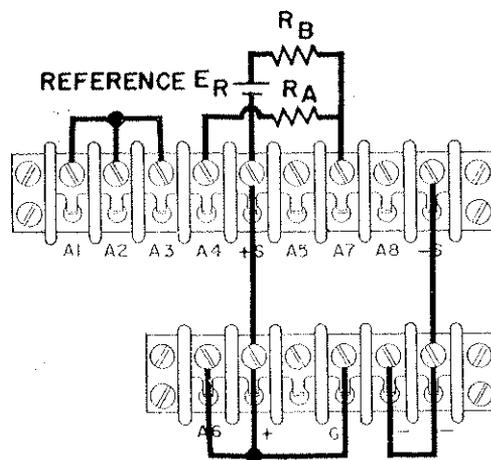

FIG. 3-6C (VOLTAGE & RESISTANCE PROGRAMMING) REMOTE PROGRAMMING CONSTANT CURRENT
- (2) The maximum load on the reference voltage is approximately 10 microamperes.
- (3) The impedance looking into the external programming voltage should be approximately 1000 ohms.
- c. Voltage Resistance Programming (See Figure 3-6C)
- (1) Stable, low noise, low temperature coefficient (less than 30 ppm per degree Centigrade) programming resistors should be used.
- (2) R_A and R_B should be selected so that the impedance looking into their junction is a maximum of 1000 ohms.
- (3) The output current will vary linearly as a function of V_{REF} , R_A , and R_B . The equation for the output current is given by the following: